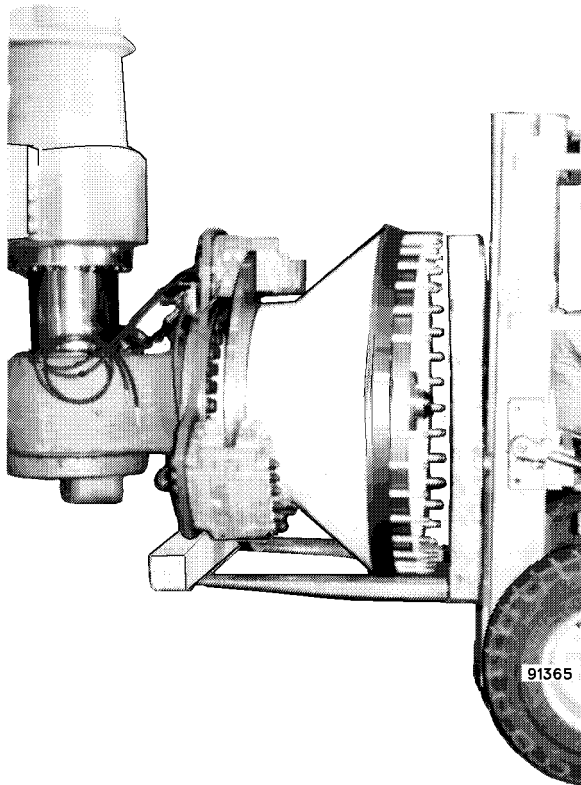

FIGURE 3-4. SPINDLE AND WHEEL HUB REMOVAL
6. With a fork lift supporting the hub and spindle assembly as shown in Figure 3-4, move to clean work area for repair.
3. Position spindle and wheel hub assembly on fork lift or similar lifting device as shown in Figure 3-4.